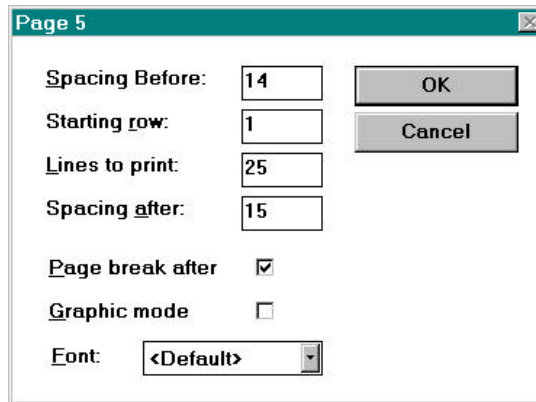

Figure 2-17
Similarly, to remove a page from the current report, select the page name from within the *Report pages* box and click on the *Remove ->* button. To remove all of the pages from the report, click on the *Remove All >>* button. By selecting the page that you are interested in and pressing the *Properties* button, the user is able to specify what part of the project file page to print and where to start printing on the page. The dialog box is shown in Figure 2-17.
- The field font specifies the default font to use when the user has not selected a particular font to use in the page definition dialog box (see Figure 2-17).